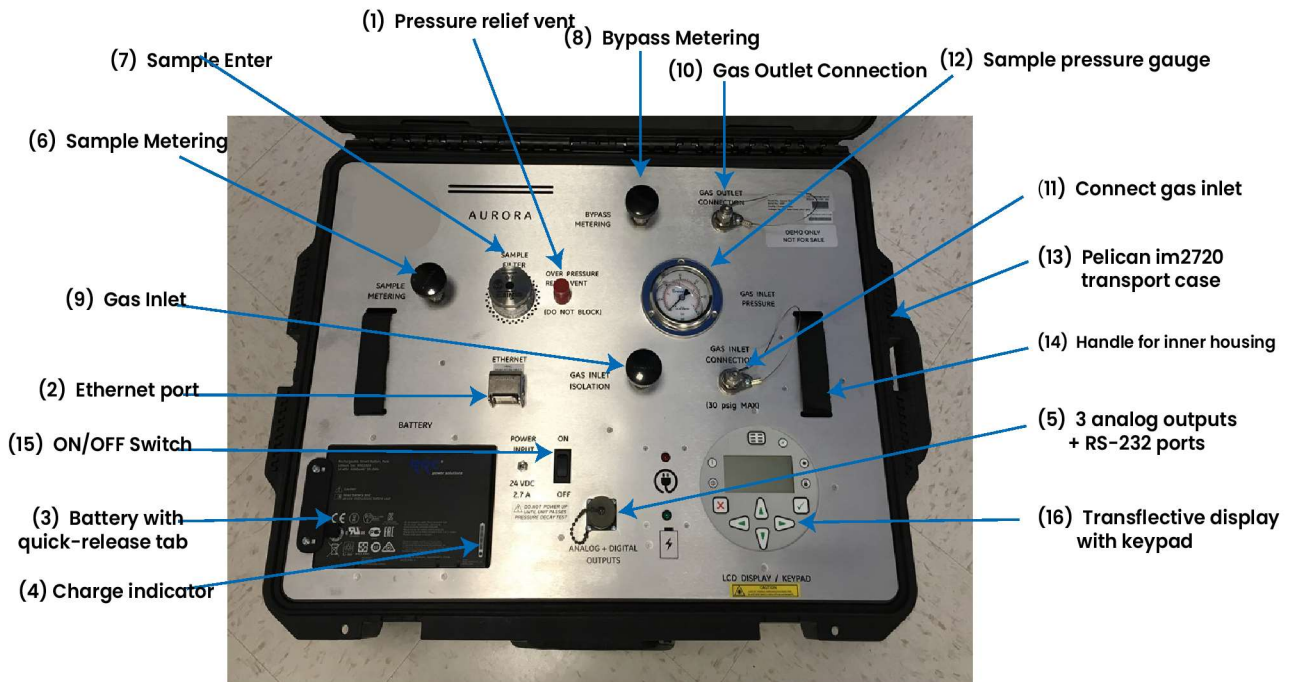

Figure 4: Front Panel of Panametrics Aurora TransPort
Refer to Figure 4 below to locate components referenced in the startup guide.
1. Ensure the Pelican transport case (13) is lying flat and horizontal on a stable surface before opening the cover.
2. Install the Li-ion battery shipped with the unit into battery slot after loosening tab (3) on left with orientation as shown in Figure 4.